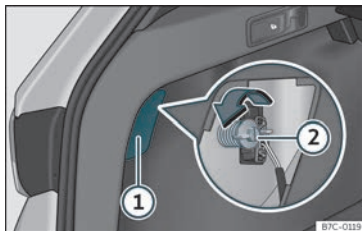

Fig. 47 Luggage compartment: access to the bolt securing the tail light unit.
- Remove the lid, levering it with the flat side of a screwdriver into the recess >>> **Fig. 47** ①.
- Unscrew the light securing bolt by hand or using a screwdriver >>> **Fig. 47** ②.